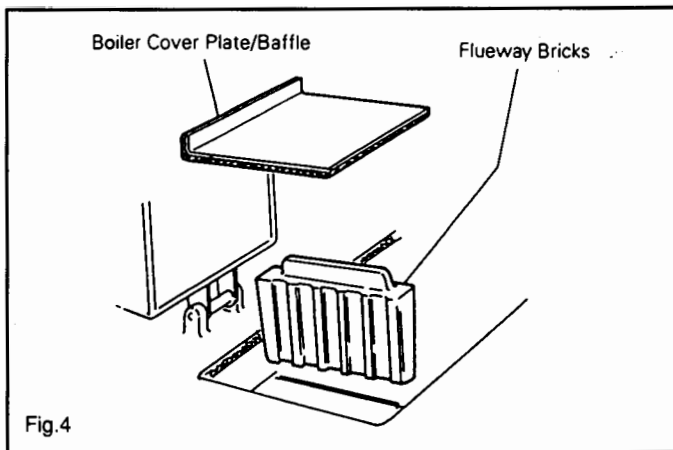

Fig.4
- Lift out boiler combustion separator baffle and remove boiler flueway firebricks - See Fig.4.